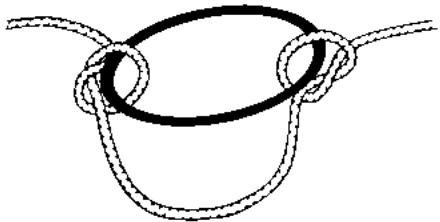

Fig. 8
- d) Approximately 12 inches from the line holder on the nose cone, tie the elastic expansion ring to the shock line leaving approximately 4 inches of slack line in the center of the ring (see Fig. 8).